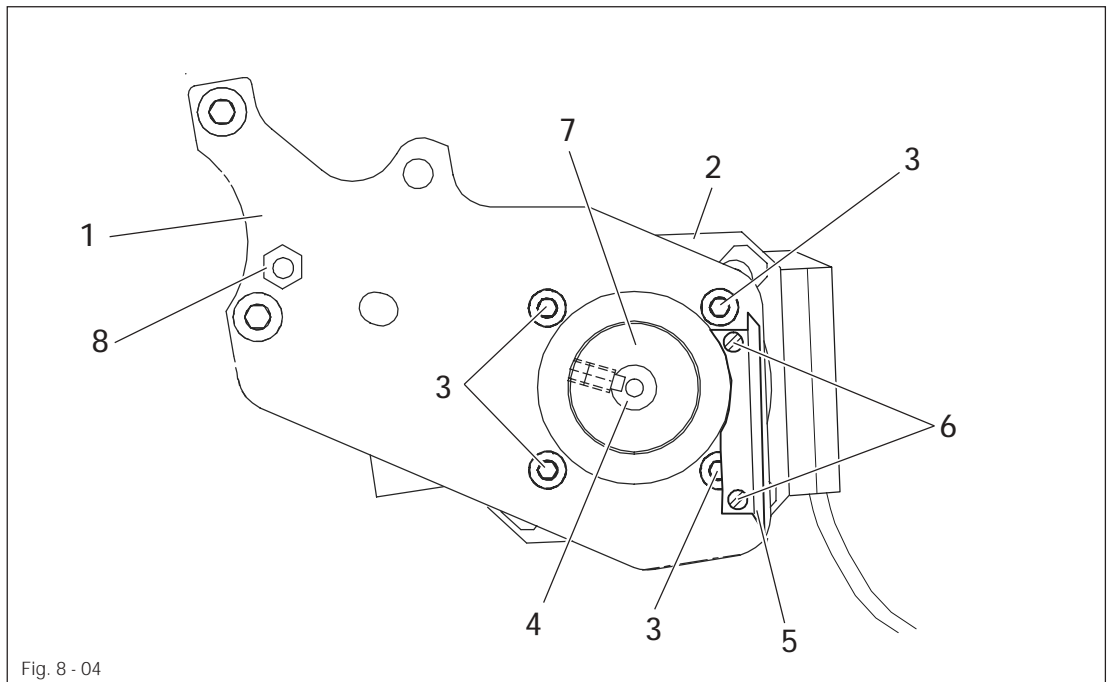

Fig. 8 - 04
- Attach bearing plate 1 to motor 2 with screws 3 as shown in Fig. 8 - 04.